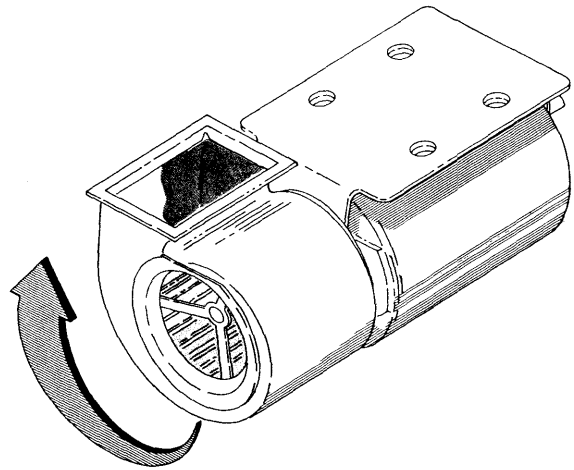

Figure 31. Blower Motor
2. Check blower for proper direction of rotation (See Figure 31).
3. Check blower for proper direction of rotation (See Figure 31).